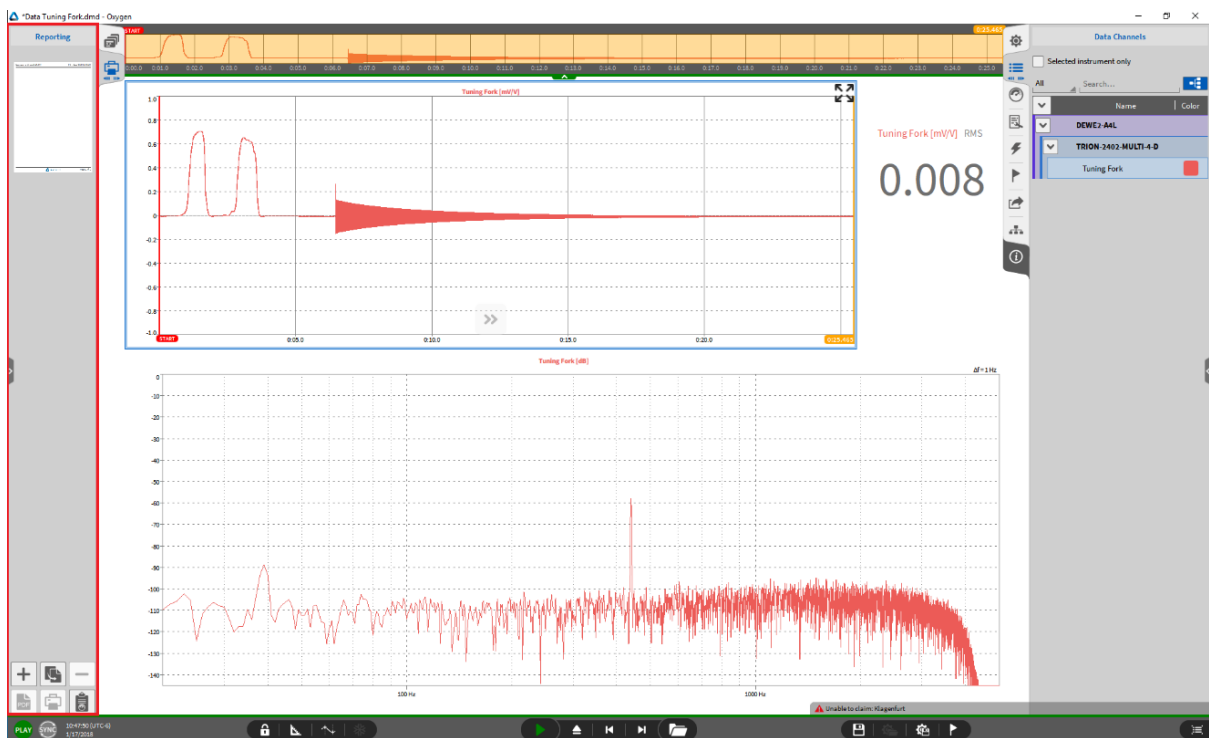

Fig. 14.3: Open the small-view of the Reporting menu
- Open the small-view of the Report menu (see Fig. 14.3):